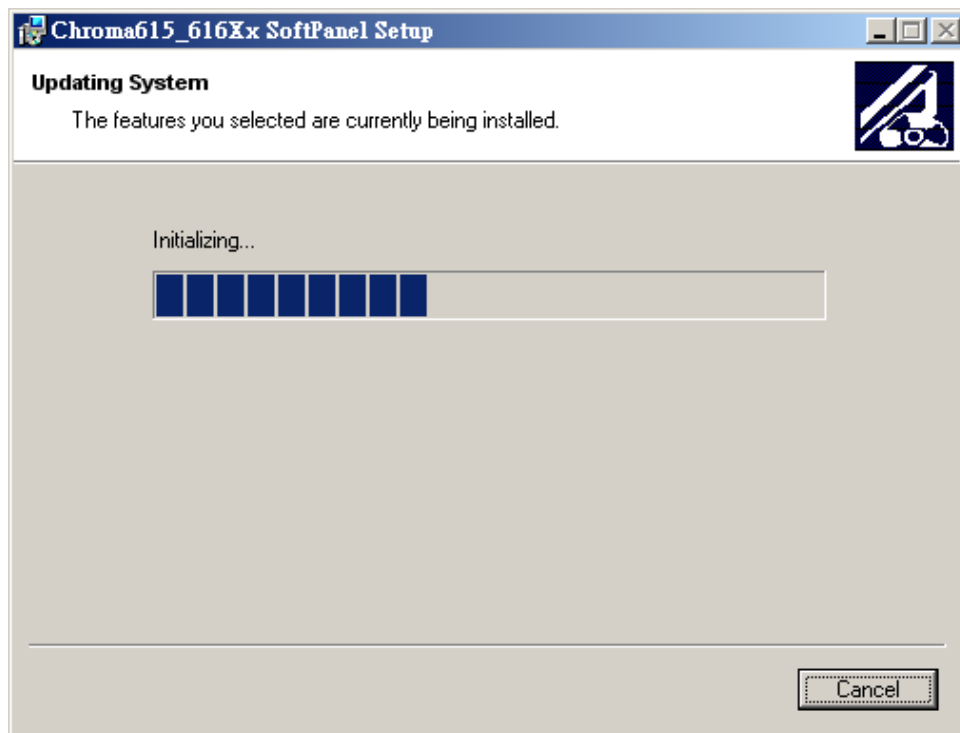

Figure 2-5 Installation Proceeding Screen
- Click **Next >** to start the installation immediately as Figure 2-5 shows.